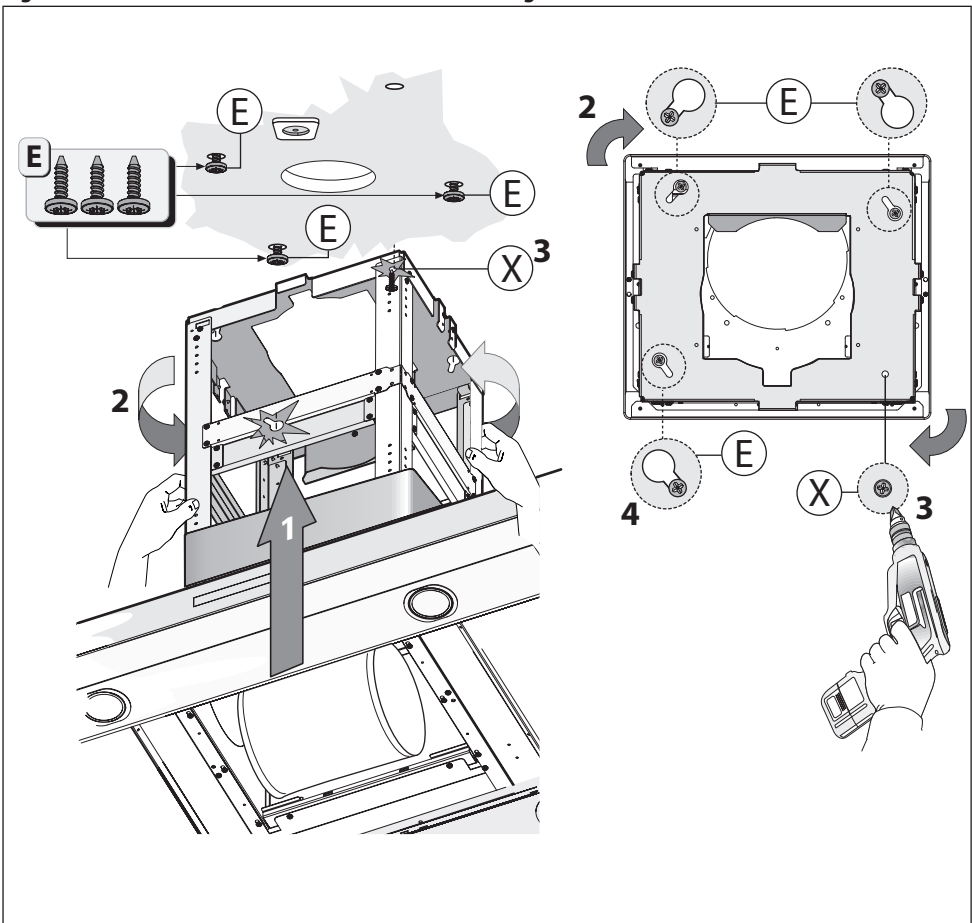

Fig.9
- Take the hood and insert the upper telescopic structure on the 3 screws **E** not tightened completely corresponding to the 3 slots and turn them slightly to fit them as indicated in figure 9 - phase 1-2.
Tighten the fourth screw **X** and pull the other 3 to permanently block the upper part of the structure **B** as indicated in figure 9 - phase 3-4.